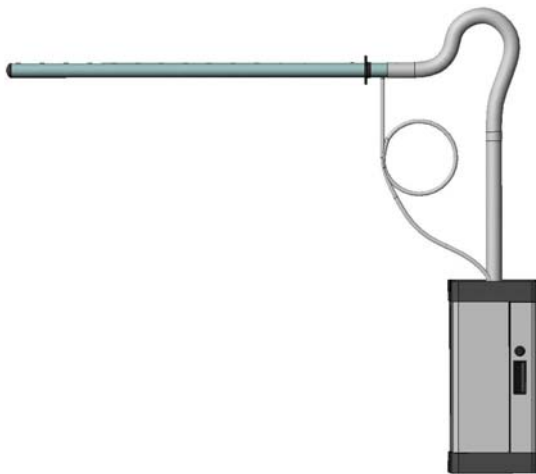
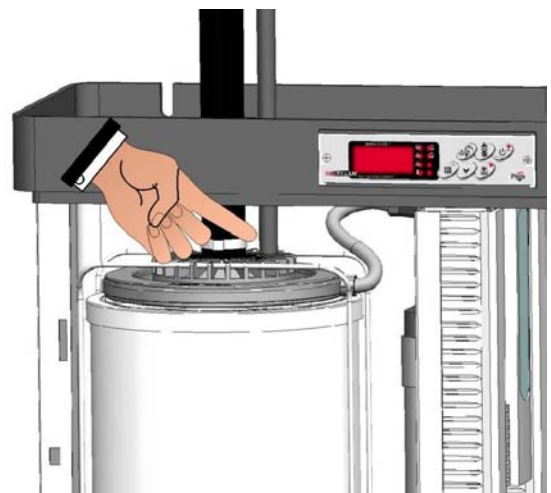

Fig. 44
Fig. 45
2. If the lance is positioned at a point higher than the humidifier and the steam pipe does have siphon-like bends (e.g. fig. 44) it will be necessary to install a condensate recovery device. This is a special hose that connects to the relevant cylinder manifold and carries the condensate directly into the humidifier cylinder (fig. 45). The condensate can also be carried to a drain. Recovery is effected by connecting the special hose (PEGO UMITUBODN10) to the 10 mm diameter lance manifold. When routing the recovery hose from lance to humidifier or from lance to drain it is necessary to create a water trap: do this by making a complete turn with a minimum diameter of 200 mm; the siphon must also be filled with water prior to installation. This will stop steam from exiting the condensate recovery hose (fig. 44).